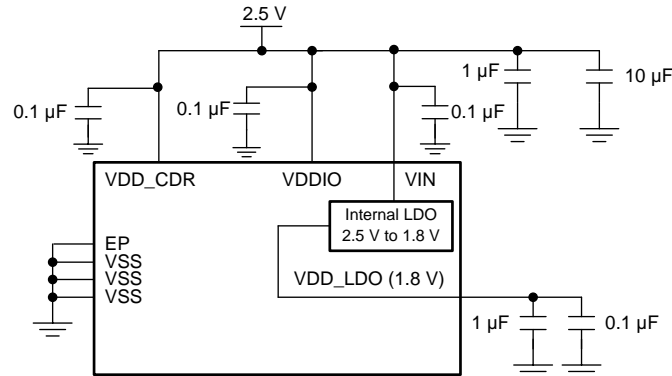

图 39. Typical Connection for Single 2.5 V Supply
- **Single Supply Mode (2.5 V):** This mode offers ease of use, with the internal circuitry receiving power from the on-chip 1.8 V regulator. In this mode, 2.5 V is applied to VDD\_CDR, VIN, and VDDIO. See Figure 39 for more details.